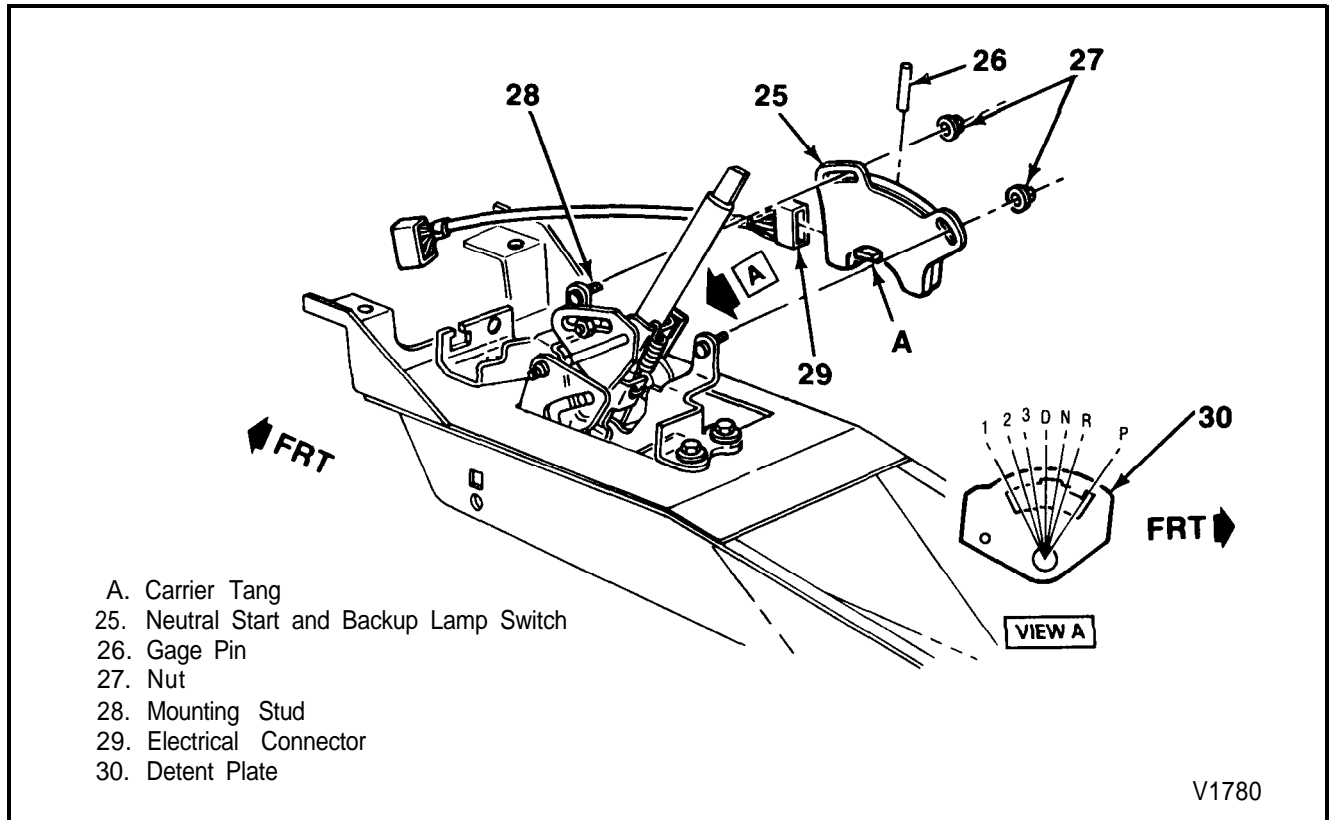

Figure 9 - Neutral Start and Backup Lamp Switch
**Remove or Disconnect (Figure 9)**
3. Nuts (27).
- Disconnect electrical connector (29).
4. Neutral start and backup lamp switch (25).
5. Gage pin (26).
**Install or Connect (Figure 9)**
- 1. Carrier tang on neutral start and backup lamp switch (25) in slot on shifter.
- Connect electrical connector (29).
2. Nuts (27).
- Nuts (27) to 3.4 N•m (30 in. lbs.).
## ↔ Install or Connect (Figure 9)